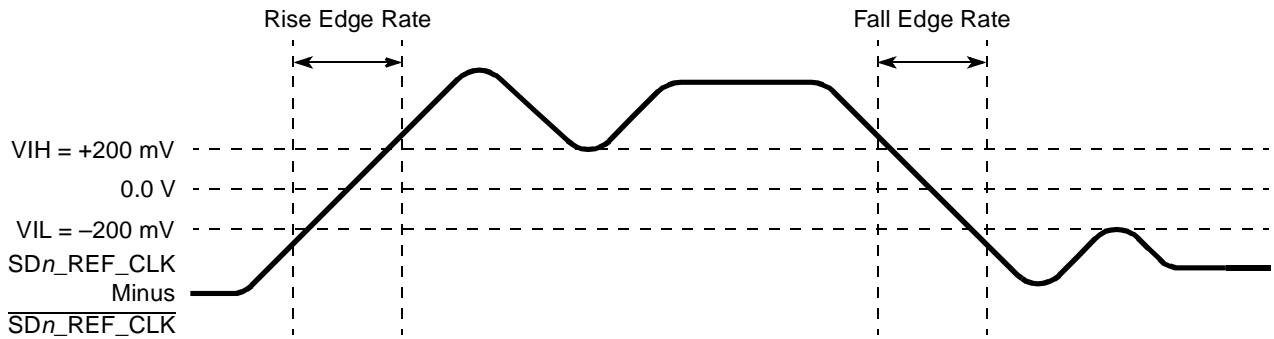

Figure 57. Differential Measurement Points for Rise and Fall Time
The differential waveform is constructed by subtracting the inverting signal ($\overline{SDn_TX}$, for example) from the non-inverting signal (SDn_TX , for example) within a differential pair. There is only one signal trace curve in a differential waveform. The voltage represented in the differential waveform is not referenced to ground. Refer to Figure 57 as an example for differential waveform.
- 3 Measured from -200 mV to +200 mV on the differential waveform (derived from SDn_REF_CLK minus $\overline{SDn_REF_CLK}$). The signal must be monotonic through the measurement region for rise and fall time. The 400 mV measurement window is centered on the differential zero crossing. See Figure 57.